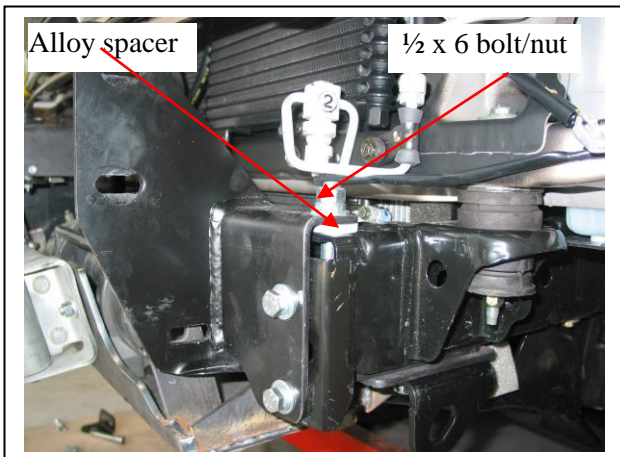

Figure 3 – Passenger side shown
8. Insert ½ x 6 bolts (supplied) vertically through mount hole at front of chassis. Place 40mm round spacer (supplied) between mount and top of chassis. Use nuts/washers (supplied). **DO NOT TIGHTEN. See figure 3.** **NOTE:** Ensure all air conditioning lines are clear of nut/bolts on passenger side. Bend slightly to clear if necessary.